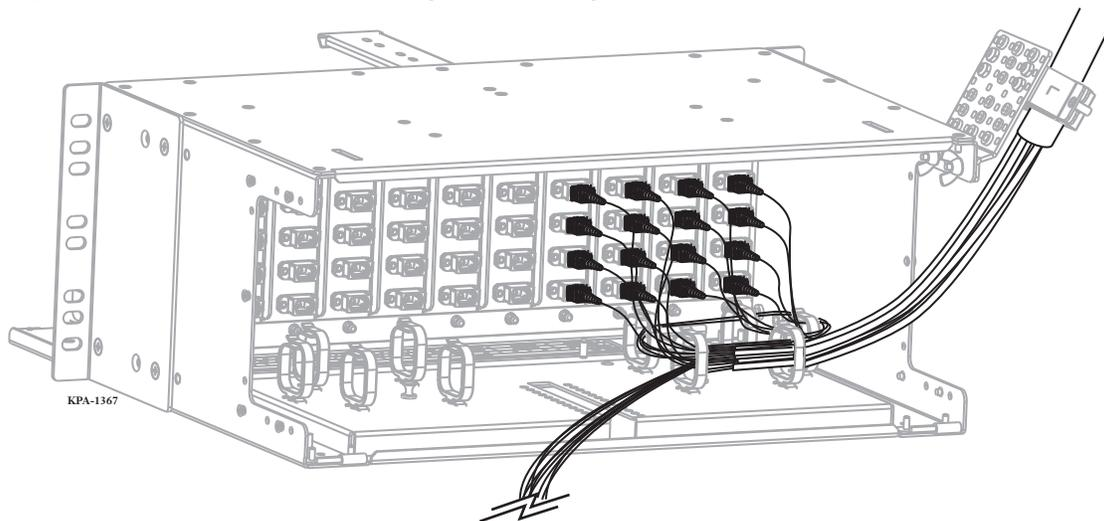

Figure 9
- Step 3:** Install connectors into the adapters at the rear of the adapter panels (Figure 9).